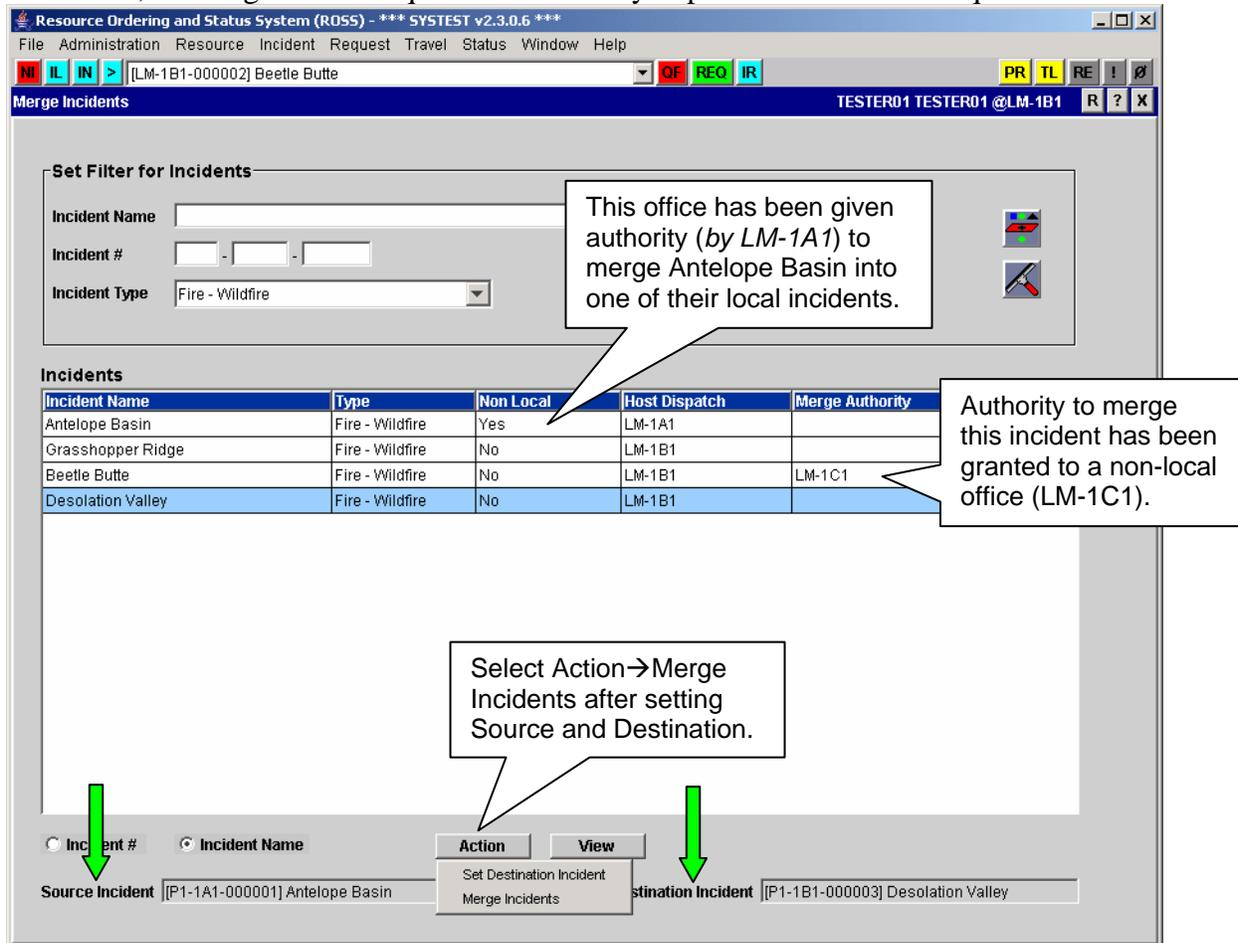

Figure 4. Merge Incidents screen
- Users must designate a source and a destination incident (Figure 4). The source is merged into the destination incident which remains open after the merge. The source incident is closed during the merge process and may not be reopened. Auto-doc is created on both incidents.